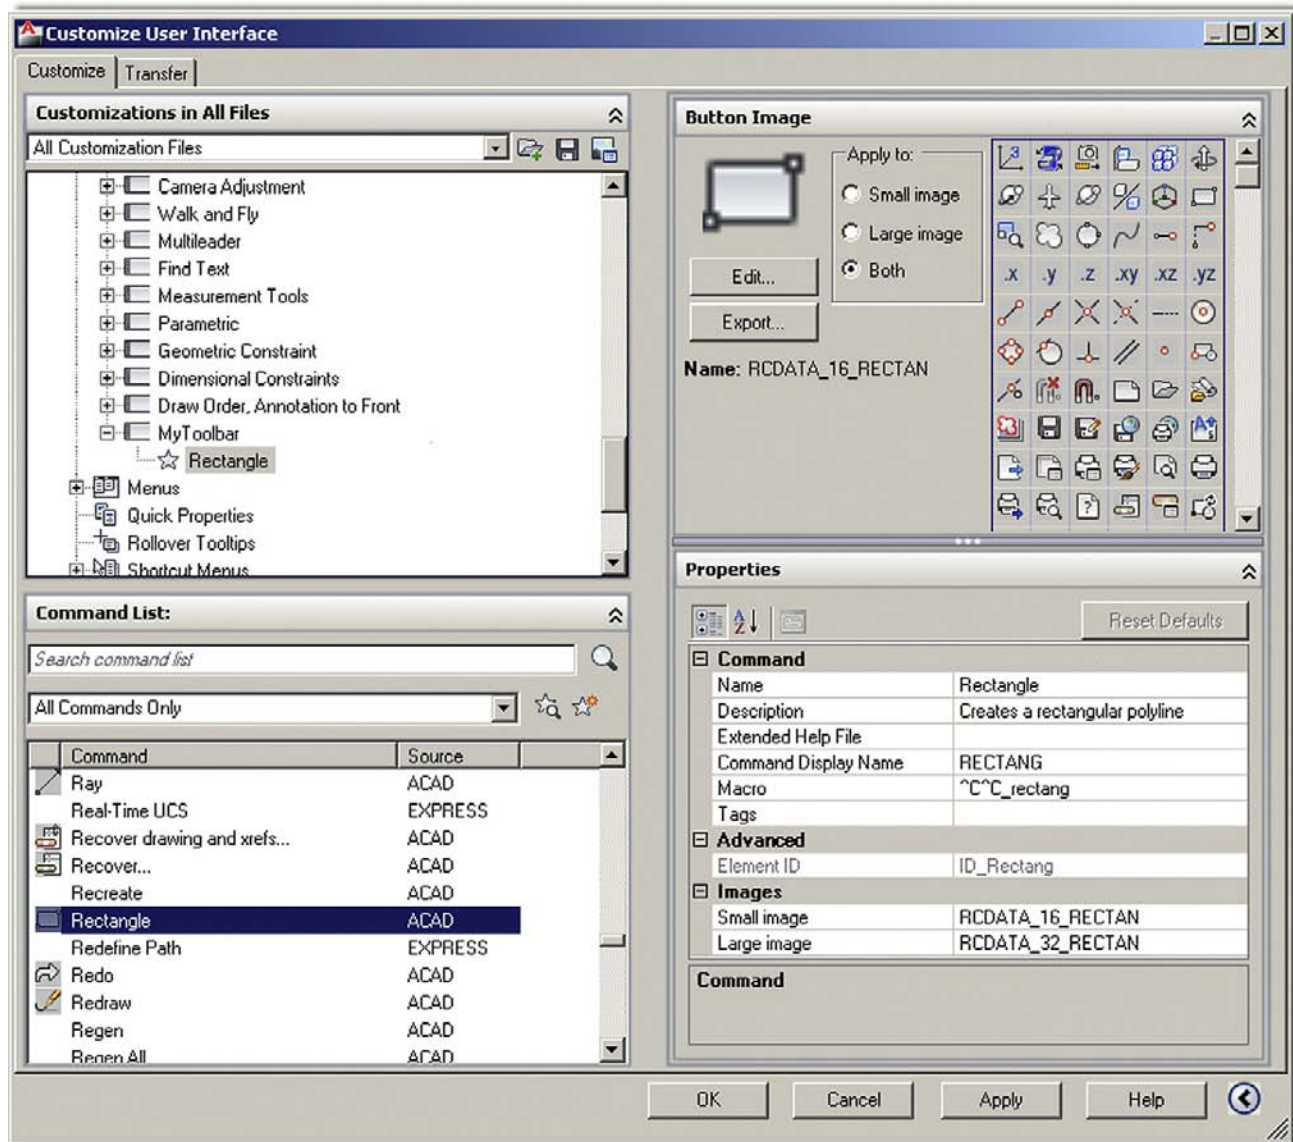

FIGURE 14.24
2. On the bottom left begin selecting the commands you want your new toolbar to have (you can filter the commands to find them easier), and drag them into the new toolbar name on the upper left. As soon as you begin doing this, a toolbar preview and Button Image category appear on the right-hand side, as seen in Figure 14.24, when “rectangle” was added as the first command.